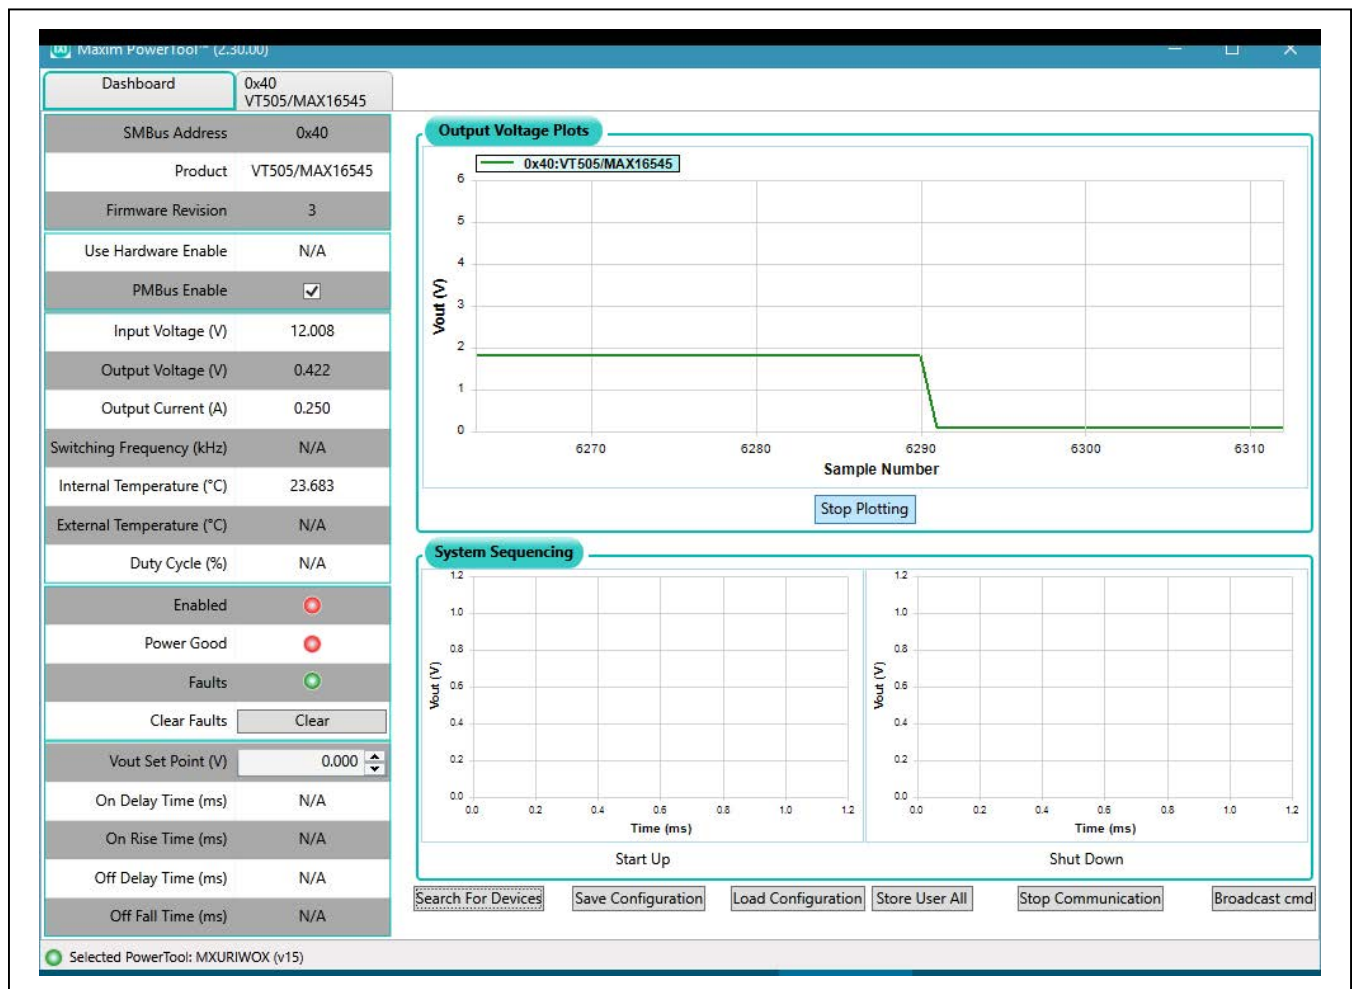

Figure 1. PowerTool GUI connected to a disabled MAX16545B/MAX16545C device
- 10) Check that the GUI shows a connection to a “VT505/MAX16545” device as shown in Figure 1.